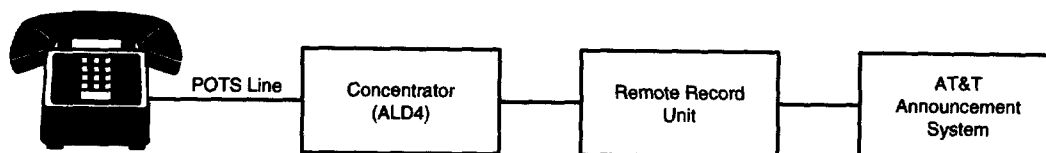

Figure 1. Accessing RRC via POTS Line
2.02 The ALD4 is accessed via a POTS line, by way of a Line Interface Circuit (LIC), which resides on the printed wiring circuit pack. When the circuit pack is accessed remotely by a Touch Tone telephone, it interacts with the user via tone prompts. Using the Touch Tone keypad, the user enters a group number (Group Select function) that represents one RRG interfaced to a maximum of eight announcement channels (see Figure 1).